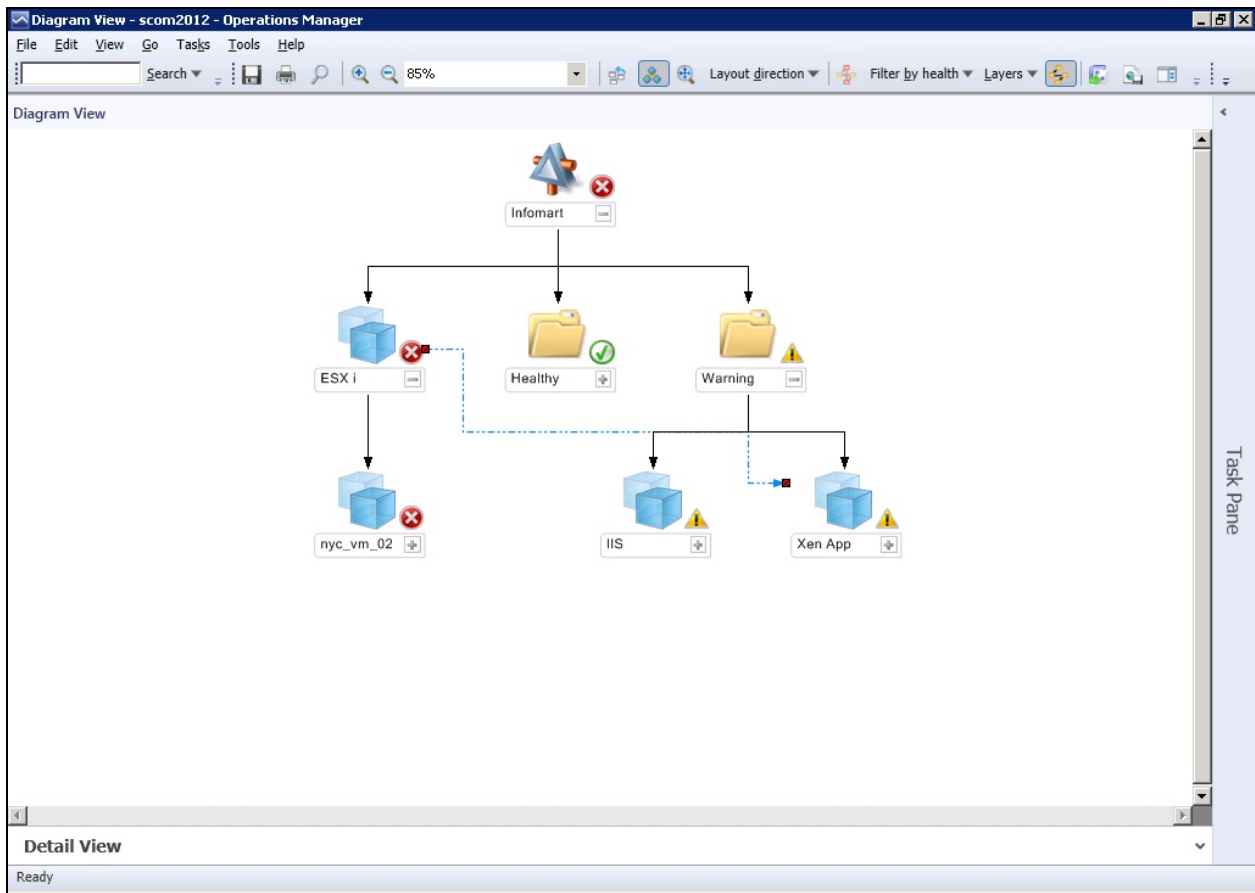

Figure 4.42: End-to-end correlation using SCOM
17. Now, let us drill down the **Warning** node under **Infomart** in the topology map. This reveals that the **IIS** web server component and the **XenApp** server component in our example are currently in the **Warning** state, indicating that **Major** problems have been noticed in these two components. Also, the 'dotted arrow' in blue connecting the **ESXi** component and the **XenApp** component (see Figure 4.42) reveals that the XenApp server depends upon the ESXi server for its proper functioning; this implies that the **Critical** issue with the **ESXi** component impacted the performance of the XenApp server that was running on one of the VMs of the ESXi server, thus creating a **Major** problem with the XenApp server. This is how SCOM indicates cause-effect equations and helps you isolate the source of issues with your distributed applications –i.e., business services.